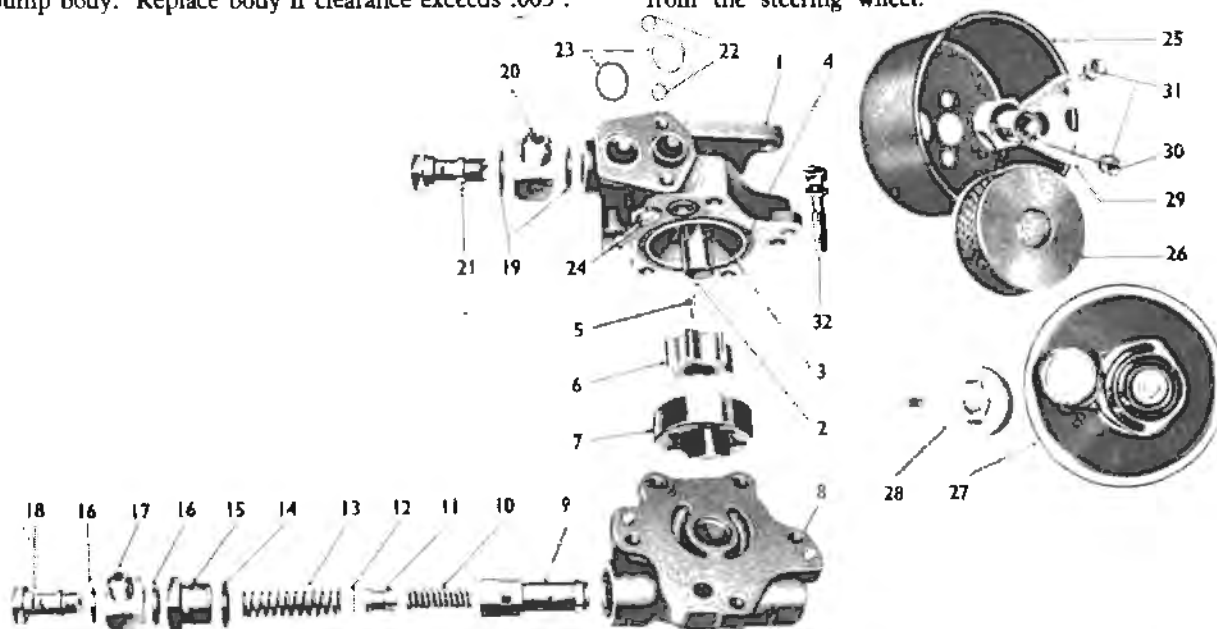

Fig. N.20.—Steering Pump Details.
2. Refer to Fig. N.20. Remove setscrews (31) and plate (29). Remove reservoir body, collecting seals (22 and 23) from top face of pump.
3. Remove pump pulley. Remove five screws (32) and separate pump body from cover. Collect seal ring (4).
4. Remove rotor assembly (6 and 7) and key from shaft (2). Using pin-nosed pliers remove circlip securing ball bearing and shaft assembly. Carefully tap out from pump housing.
5. Remove valve cap adaptor (15) and seal (14) from pump cover and remove flow control valve assembly. Using pin-nosed pliers, remove circlip from flow control valve (12) and remove relief valve (11) and spring (10).